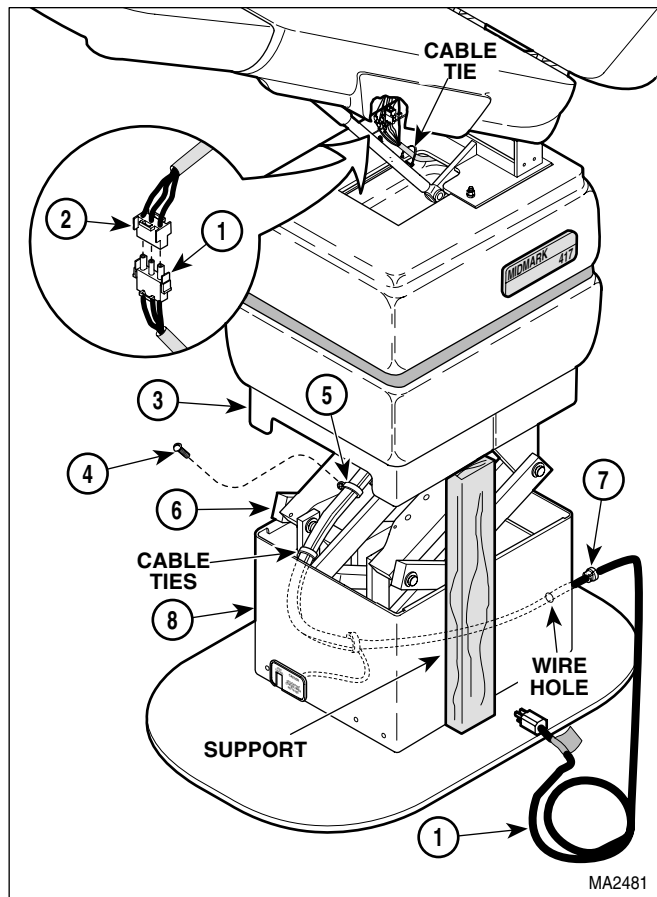

Figure 4-5. Power Cord Removal / Installation
- (2) Unplug power cord from wall outlet.
- (3) Disconnect power cord wire harness (1, Figure 4-5) from wire harness (2).
- (4) Raise up outer shroud (3) and use a support to hold it there.
- (5) Remove three screws (4) and three wire clips (5) from base subassembly (6).
- (6) Cut cable ties which are securing all wires/wire harnesses together.
- (7) Remove strain relief bushing (7) from inner shroud (8) and then remove power cord (1) from chair.